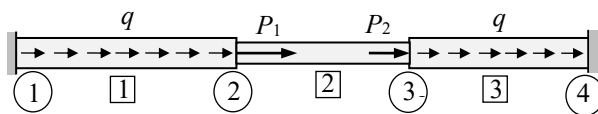

Figure 1
1. Consider the bar subjected to distributed and concentrated axial loads as shown in Fig. 1. Analyse it using 2-noded bar elements. The element and node numbering are also shown. Obtain the nodal displacements and element stresses. Given: areas of members: $A_1 = 90 \text{ mm}^2$, $A_2 = 60 \text{ mm}^2$ and $A_3 = 90 \text{ mm}^2$; lengths: $L_1 = 1000 \text{ mm}$, $L_2 = 800 \text{ mm}$, $L_3 = 800 \text{ mm}$; modulus of ELASTICITY: $E = 1.6 \times 10^5 \text{ N/mm}^2$; the loads are: $q = 1.2 \text{ kN/m}$; $P_1 = 4 \text{ kN}$ and $P_2 = 2 \text{ kN}$. [8]